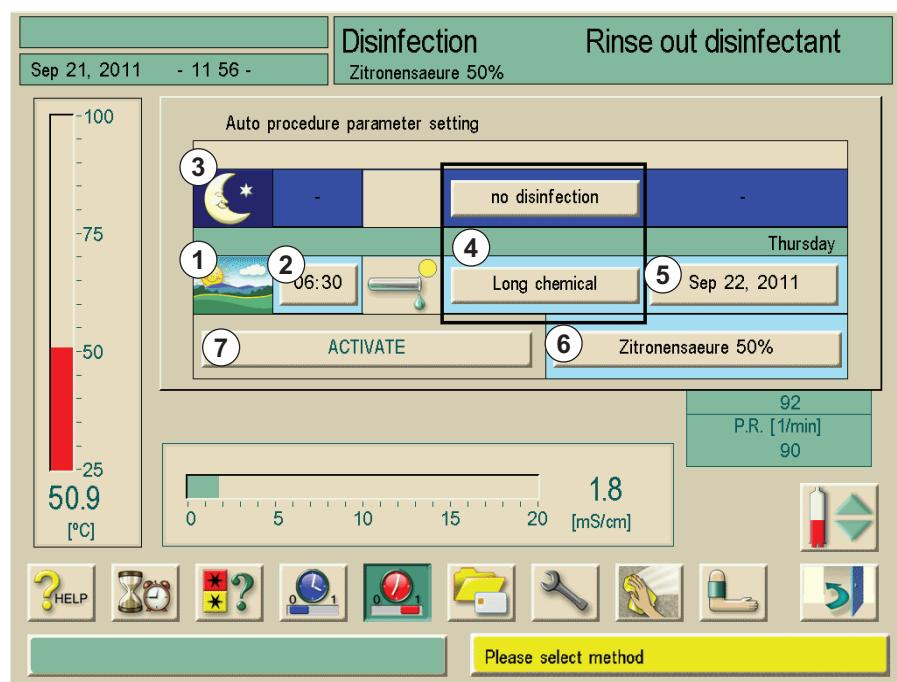

Fig. 8-7 "Disinfection" screen
1. Touch button for disinfection method (4, Fig. 8-7).
3. Set switch **ON** time (2, Fig. 8-7).
4. Touch button “Activate” (7, Fig. 8-7).